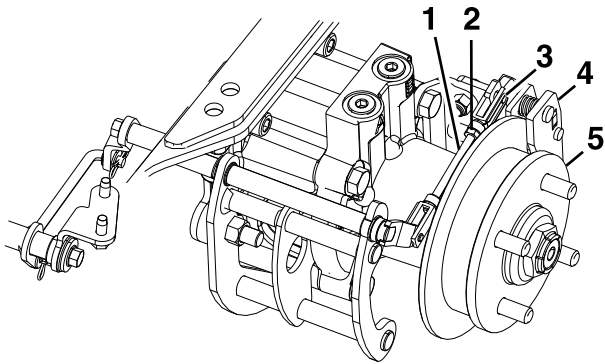

Figure 71
8. Remove the spring clevis pin from the rear linkage and caliper (Figure 71).
12. Tighten the jam nut on the rear linkage (Figure 71).